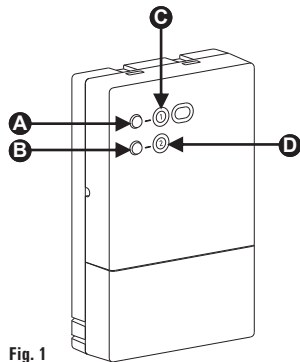

Fig. 1
### LEDs (C and D Fig. 1)
### SELF-LEARNING BUTTONS (A and B Fig. 1)
The device is equipped with two self-learning buttons for setting up the wireless link between the thermostat (or programmable thermostat) and the receiver, one button for channel 1 (A Fig. 1) and one button for channel 2 (B Fig. 1).
- Press the self-learning button of the desired channel for a second (A Fig.1 for channel 1 and B Fig.1 for channel 2). The self-learning procedure starts: the relevant channel's LED will blink quickly yellow.
- Press and hold the button of the desired channel (A or B Figure 1).
- Press and hold both buttons **A** and **B** Fig.1